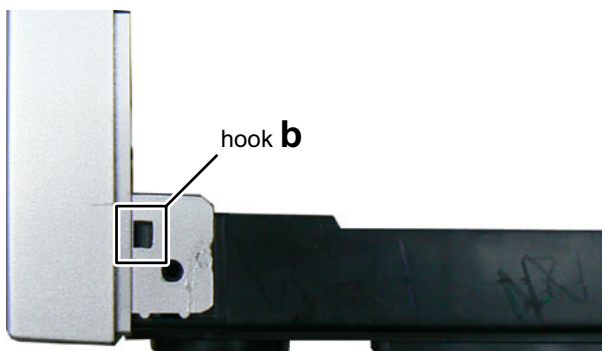

Fig.13
- (2) Disengage two hooks **b** engaged both side of the Front panel. (See Fig.13)